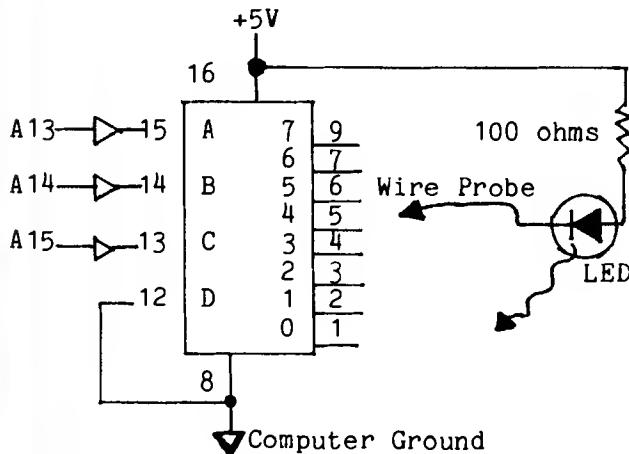

Figure 3. Decoding the Highest Three Address Lines.
To begin to see how this is done, construct the circuit shown in Figure 3.
(There are many decoding schemes and circuits, the circuit of Figure 3 is just one possible technique.) Here is where your breadboard becomes useful. Connect the address lines from your 6502 system to the 74145. (KIM owners can do this with no buffering because lines A15-A13 are not used on the KIM-1. Owners of other systems should check to see if the address lines are properly buffered.) Now perform the following experiments:
2. Run the program and with the wire probe shown in Figure 3, test each of the output pins (pins 1-7 and 9). Which ones cause the LED to glow?
Table 4. Truth Table for 74LS145 when connected as shown in Figure 3.
(The more precocious of my attentive readers may already see that the scheme of Figure 3 could also be used to preset or clear a flip-flop to control an external device, for example, a heater, and all that without even using the data lines. If you see all that, you can take over this column.) See you next issue.